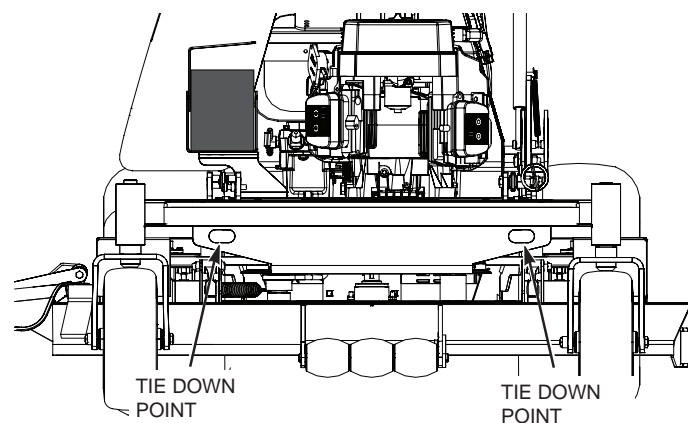

Figure 2-1. Front Tie Down Points
21. Tie the mower down securely using the tie down points located on the front and rear of the machine. See Figure 2-1 and 2-2. Secure using straps, chains, cable, or ropes. Both front and rear straps must be directed down and outward from machine.